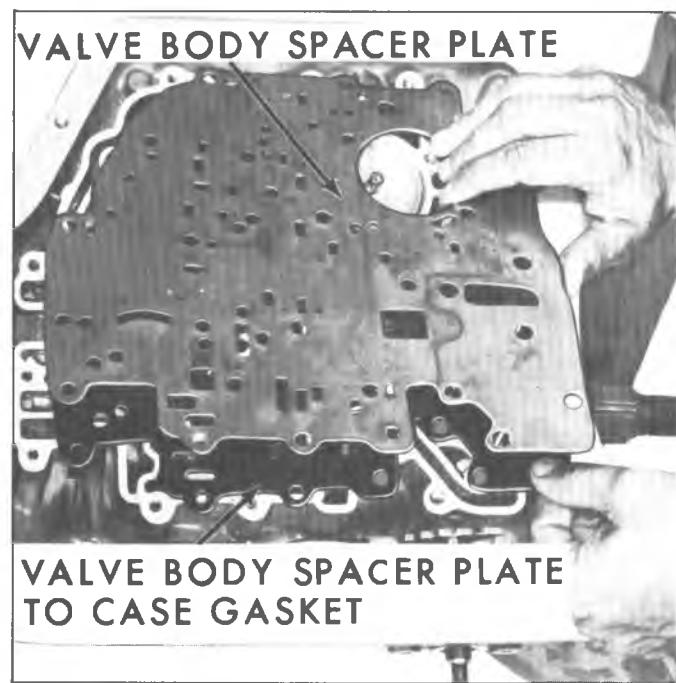

Fig. 14M--Removing Valve Body Transfer (Spacer)
4. Remove upper gasket, valve body transfer (spacer) plate and valve body transfer (spacer) plate to case gasket (fig. 14M).